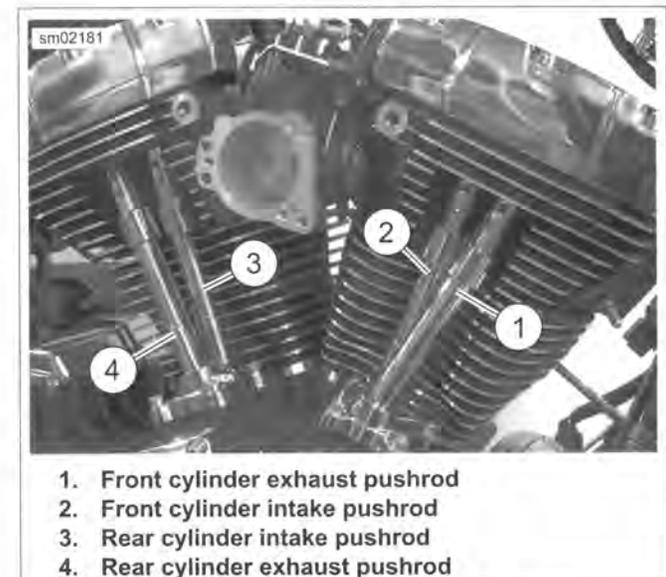

Figure 3-81. Pushrod Locations
8. See Figure 3-81. Install the pushrods. If installing original parts, install them in their original locations and orientation. Always remove any tags that may have been used for identification.